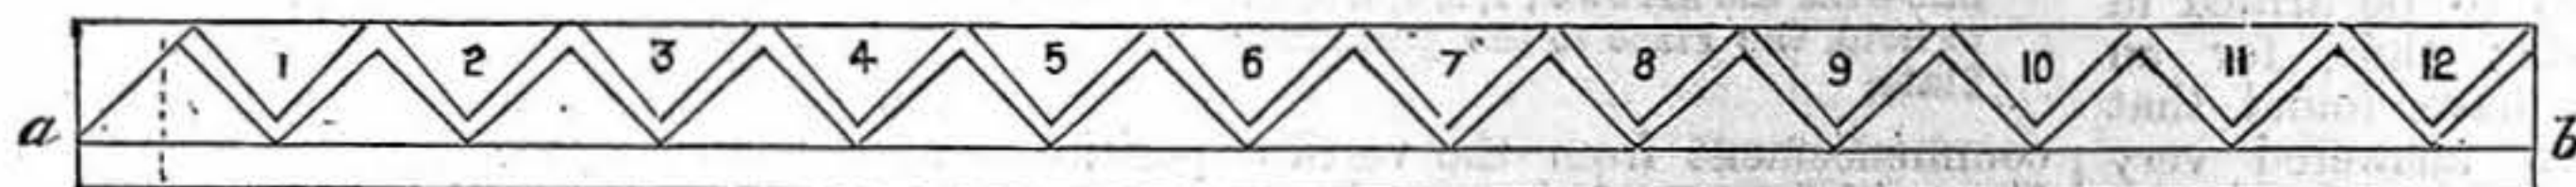

Fig. 3
Application of Pitch-board.—To apply the pitch-board, draw a line the whole length of string two inches from edge, as a b (Fig. 3); this figure shows the board fully set out. Now lay the pitch-board flat upon it, with guide pressed close to the edge; then, with a striking-knife run round the board from a to b and c (Fig. 4), being sure not to pass beyond the 2 in. line. Now slide the pitch-board up the string, making a coincide with point c, and continue this till the proper number of steps are drawn.
Staircasing. Fig. 1.—Sectional Elevation—S.B., String-board; L., Landing; T., Trimmer; T.J., Trimmer Joist; F.L., Floor Line; S.R., Storey Rod; H., Handrail; G.G., Going; H.H., Height; A., Architrave; P., Passage. Fig. 2.—Plan—L., Landing; D., Door; J., J., Jambs; W., Walls; S., S., Strings. Fig. 3.—String-board set out for working—*a* to *b*, Line of Nosings. Fig. 4.—Enlargement of String, showing at (1) the Pitch-board, P.B., applied to String; *a b* being the Tread, *a b c* the Riser; (2) is the application of Wedge Strip, *d e*; (3) *f* shows Holes bored by Centre-bit, and *g*, space cleared out for Saw. Fig. 5.—Pitch-board, P.B.—S, Section of same; *a b*, Riser; *a c*, Step. Fig. 6.—Nosing Plane, N.P., and part of Step, S. Fig. 7.—Router. Fig. 8.—Enlargement of String-board, S.B.—*a*, Tread; *b*, Riser; *c*, Wedge; *d*, Block; *e*, Bead; *f*, Section. Fig. 9.—Alternative Sections of Rails *a* and *b*. Fig. 10.—Enlargement of Trimmer, T, etc.—T.J., Trimmer Joist; L., Landing; A., Architrave; *a*, Nosing; *b*, Floor-board; *c*, Tusk Tenon.